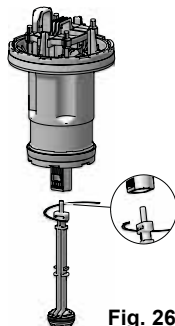

Fig. 26
- Turn the dosing piston through a quarter turn anticlockwise to unlock it and release it from the piston motor. **(Fig.26)**